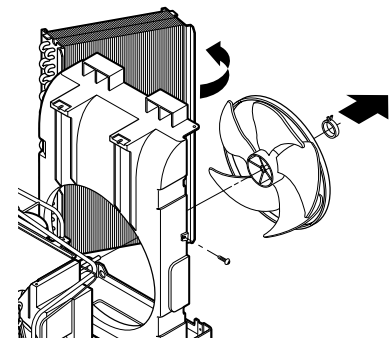

Figure 7
6. Remove the fan. (See Figure 7)